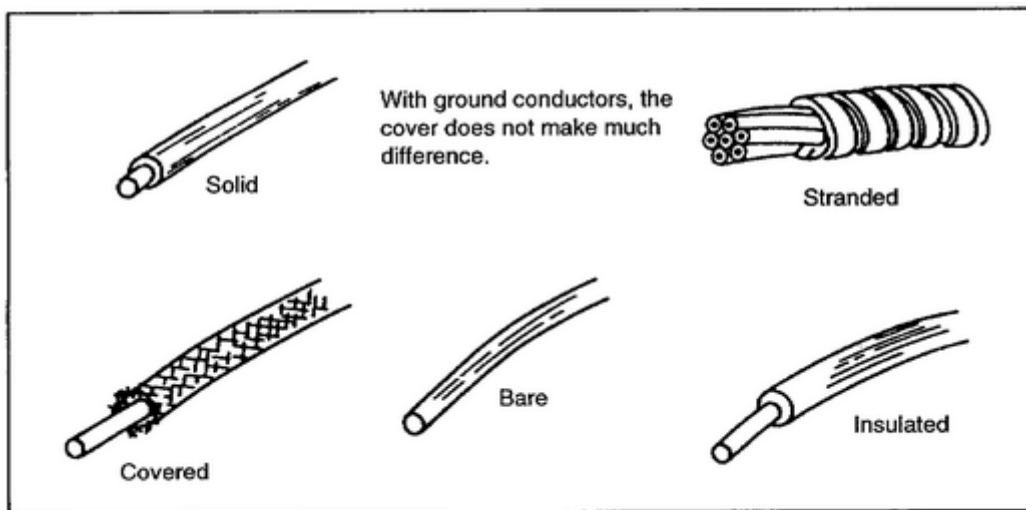

Figure 2-2. Ground conductors
a. Ground conductors are shown in Figure 2-2. If the ground conductor is covered or insulated, the material must be green.